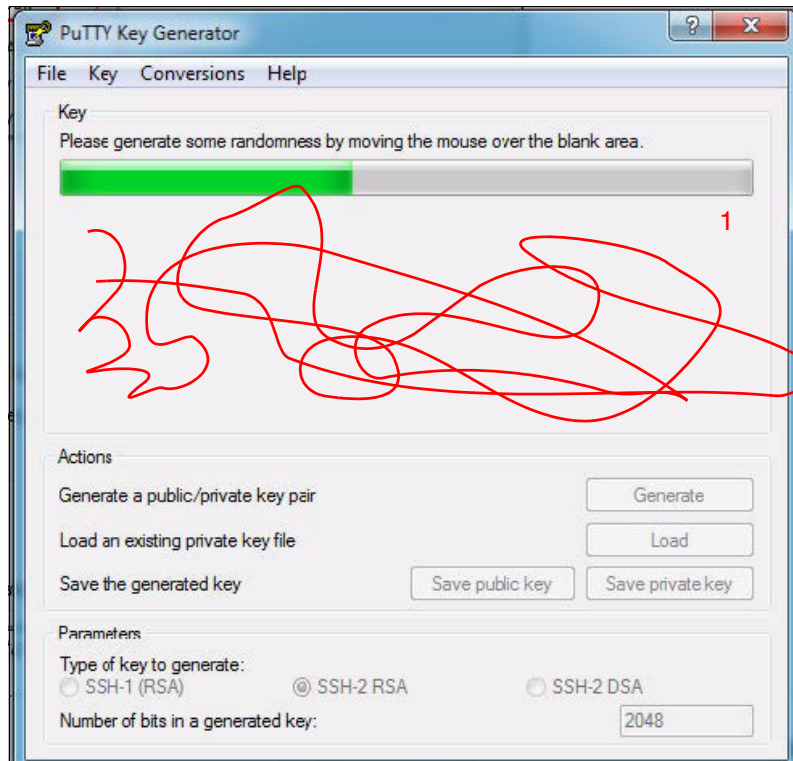

Figure A-2 Key generation
While the progress bar proceeds, move the mouse over the blank area (1), as shown in Figure A-2.